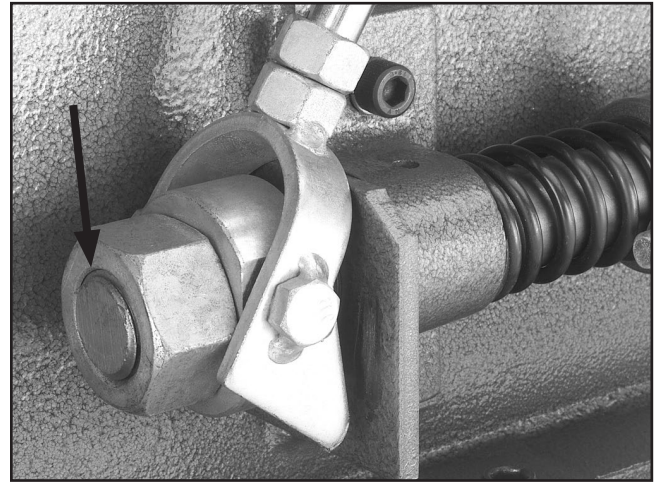

Figure 51. Tension nut flush with threads.
4. Turn the tension nut until the threads of the tension shaft are flush with the nut, as shown in **Figure 51**.